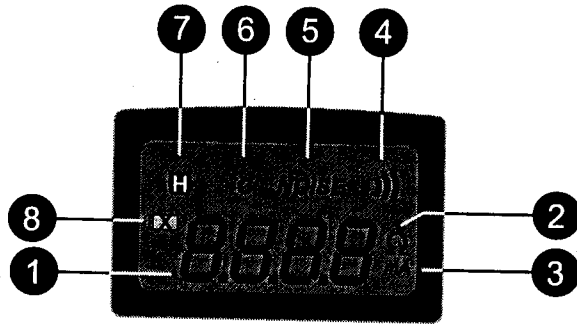

Fig. 2
**4. LCD** - See Figure 2 for details